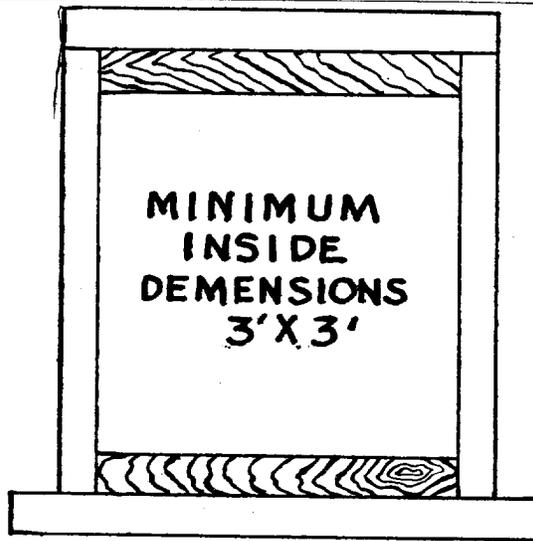

FIGURE 21.—Portal frame.
B. ORGANIZATION	<ol style="list-style-type: none"> <li>1. The leader of the tunneling crew should:           <ol style="list-style-type: none"> <li>a. Organize his unit so each member has a specific job. Because much of this work is exhausting, and no one should work too long, he should name alternates for each job.</li> <li>b. Select the starting point which depends on several factors:               <ol style="list-style-type: none"> <li>(1) Length of tunnel required.</li> <li>(2) Type of debris.</li> </ol> </li> <li>c. Select a location for the rubble store pile.</li> <li>d. Organize the crew into work groups:               <ol style="list-style-type: none"> <li>(1) Men to gather timbers.</li> <li>(2) Men to lay out tools.</li> <li>(3) Men to start the tunnel.</li> </ol> </li> <li>e. See that all men are properly equipped.               <ol style="list-style-type: none"> <li>(1) Personal equipment: heavy gloves, helmets, and electric cap-lamp.</li> <li>(2) Organizational equipment: axe, saw, pipe cutter, sledges and hammers, chisels, miner's pick, debris basket, shovel, stirrup pump, lifeline, and self-energizing telephone set.</li> </ol> </li> </ol> </li> </ol>
C. CONSTRUCTION	<ol style="list-style-type: none"> <li>1. Starting point.       <ol style="list-style-type: none"> <li>a. The starting point for the tunnel should be as close to an access location as possible, with adequate space for piling up removed debris and rubble. Wood, brick, and other materials should be separated for later use in the tunneling operations.</li> <li>b. Manpower should be used efficiently and divided into:           <ol style="list-style-type: none"> <li>(1) Tunneling group.</li> <li>(2) Framing group.</li> </ol> </li> <li>c. To equalize the workload, the leader should alternate personnel within the 2 groups.</li> </ol> </li> <li>2. "Facing off."       <ol style="list-style-type: none"> <li>a. While the framing group is preparing frames to assemble in position as the work progresses, the tunneling group should "face off" the pile so that, as the tunnel is started, it will pierce the face of the pile.</li> </ol> </li> <li>3. Framing.       <ol style="list-style-type: none"> <li>a. The framing group should prepare:           <ol style="list-style-type: none"> <li>(1) 1 single header frame for the portal.</li> <li>(2) 1 temporary frame for use inside the tunnel as work progresses.</li> <li>(3) As many doubleheader frames as are required to complete the operation.</li> </ol> </li> </ol> </li> <li>4. Description of the above frames:       <ol style="list-style-type: none"> <li>a. The portal frame is constructed as shown in figure 21. Inside dimensions are 3' x 3' minimum.</li> </ol> </li> </ol>